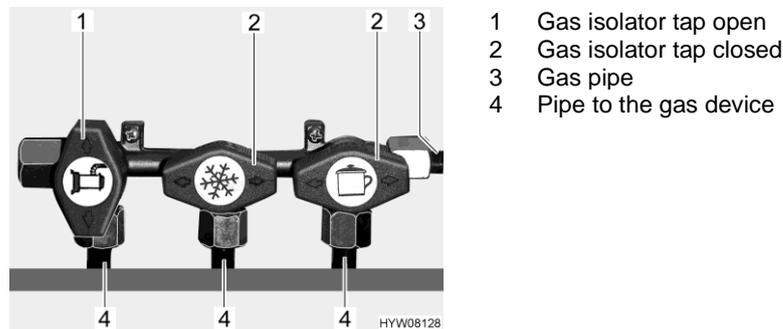

Fig. 79 Gas isolator taps position (example)
- Position the gas isolator tap of the corresponding gas device parallel (Fig. 79,1) to the pipe (Fig. 79,4) leading to the gas device.
- Position the gas isolator tap of the corresponding gas device transverse (Fig. 79,2) to the pipe (Fig. 79,4) leading to the gas device.